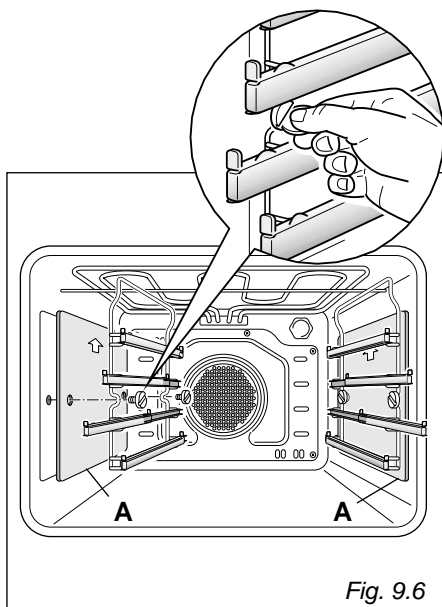

Fig. 9.6
- Assemble the sliding shelves on the oven walls using the 2 screws (Fig. 9.6).
- In the models with catalytic panels interpose the catalytic panels “A” with the arrow up (Fig. 9.6).
- Unscrewing the fixing screws and slide off the sliding shelves and the catalytic liners (if supplied) to the oven wall as in fig. 9.6.